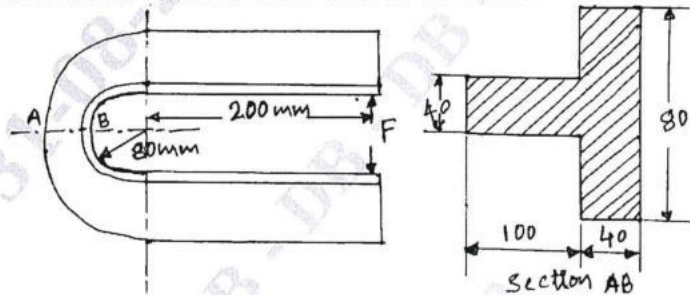

Fig.Q.1(a)
- 1 a. A \perp section frame for a punch press is shown in Fig.Q.1(a). Determine the capacity of press if the maximum stress in the frame is not to exceed 60N/mm^2 . (08 Marks)